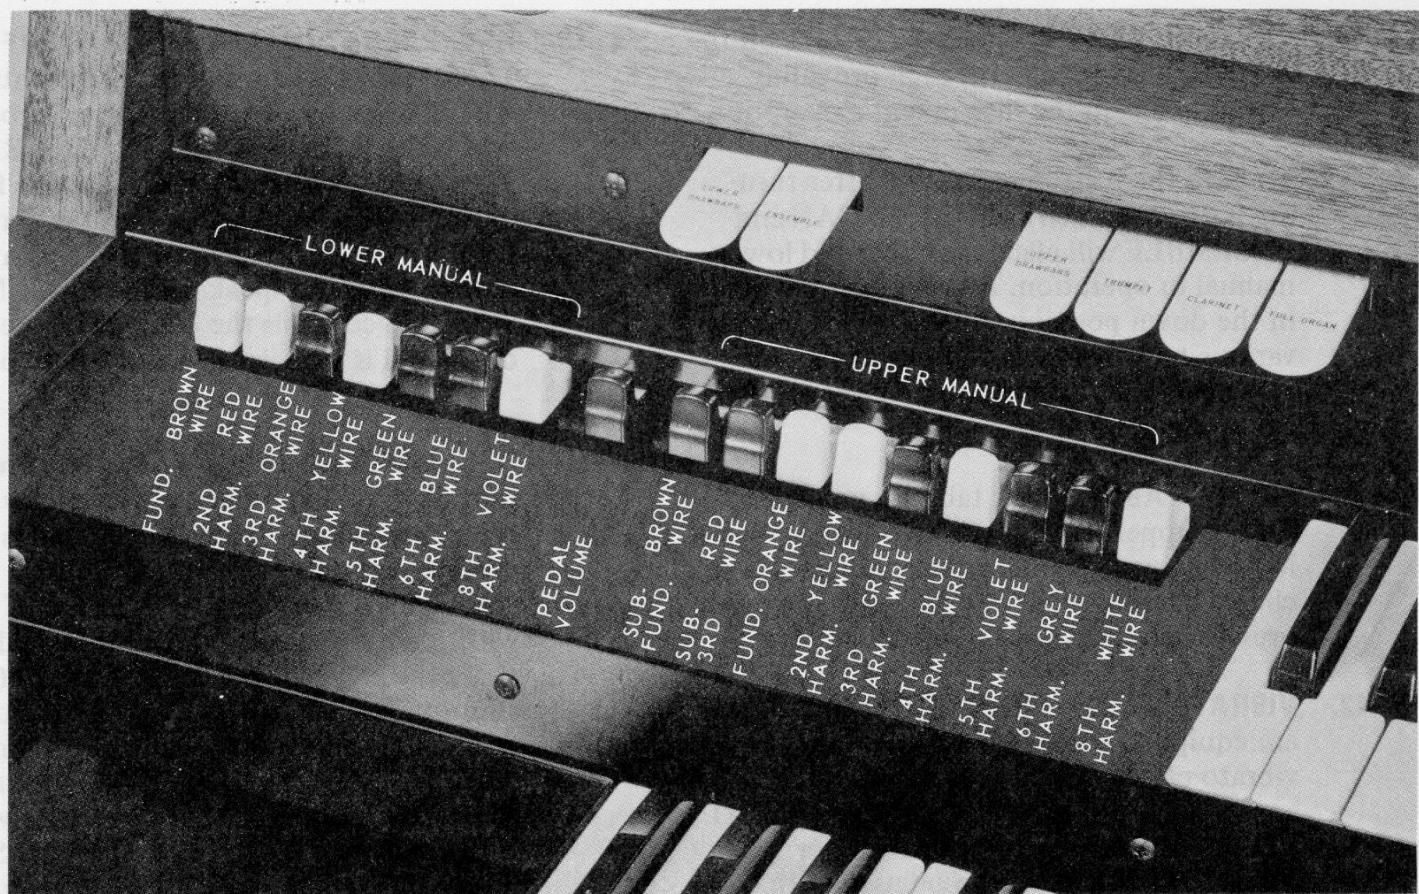

Figure 1-8. Drawbars & Control Tabs (Partial View)
**1-6. HARMONIC DRAWBARS.** — The left group of seven harmonic drawbars (Figure 1-8) is associated with the lower manual, and the right group of nine drawbars controls the upper manual. By sliding these drawbars in and out, the organist is able to mix the fundamental and harmonics (or overtones) in various proportions. The distance a bar is pulled out determines the strength of the corresponding harmonic; and if a drawbar is set all the way in, the harmonic it represents is not present in the mixture. Neither manual will play unless one of its drawbars is pulled out at least part of the way with the drawbar tab pressed, or a preset tab is pressed.